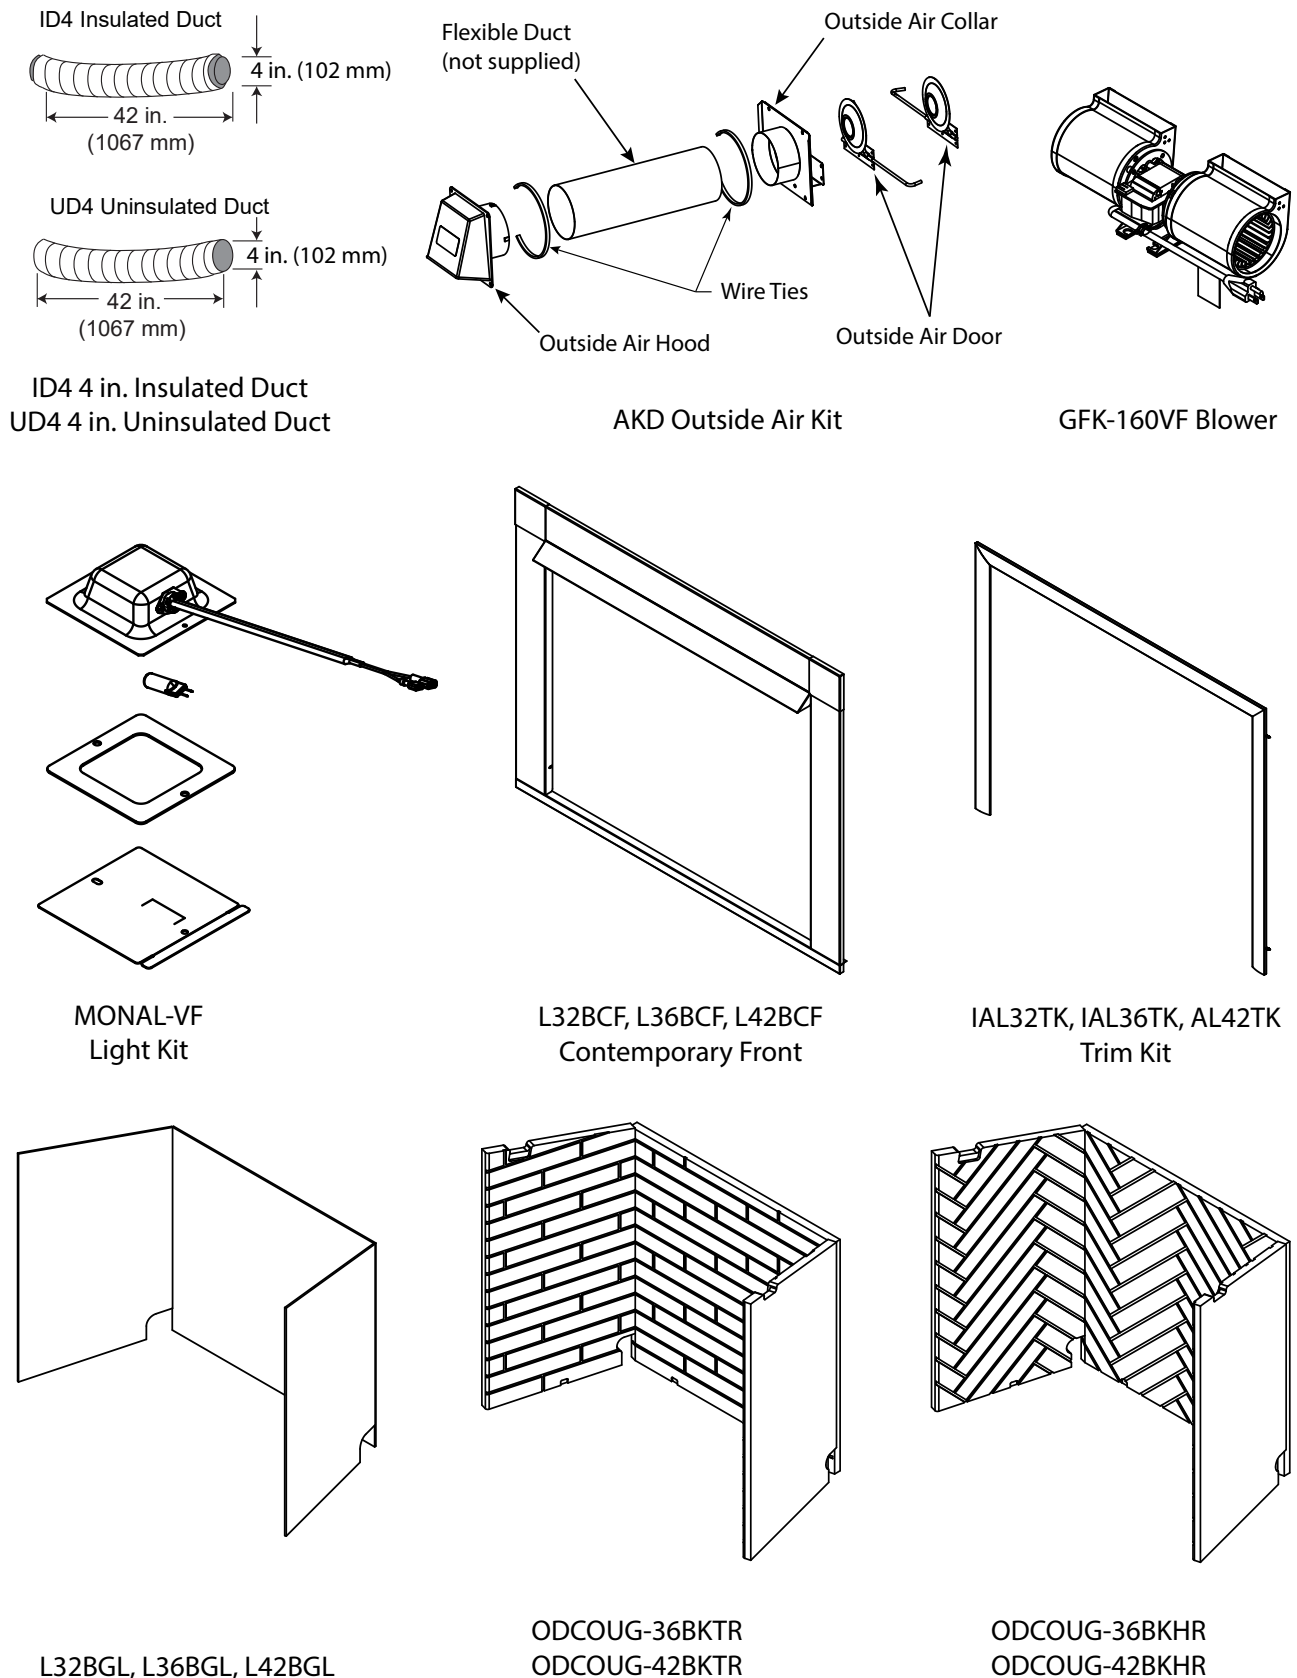

Figure 8.1
Locate the (6) screws, (4 on the top and 1 on each end), slide hood into position and secure. See Figure 8.1.